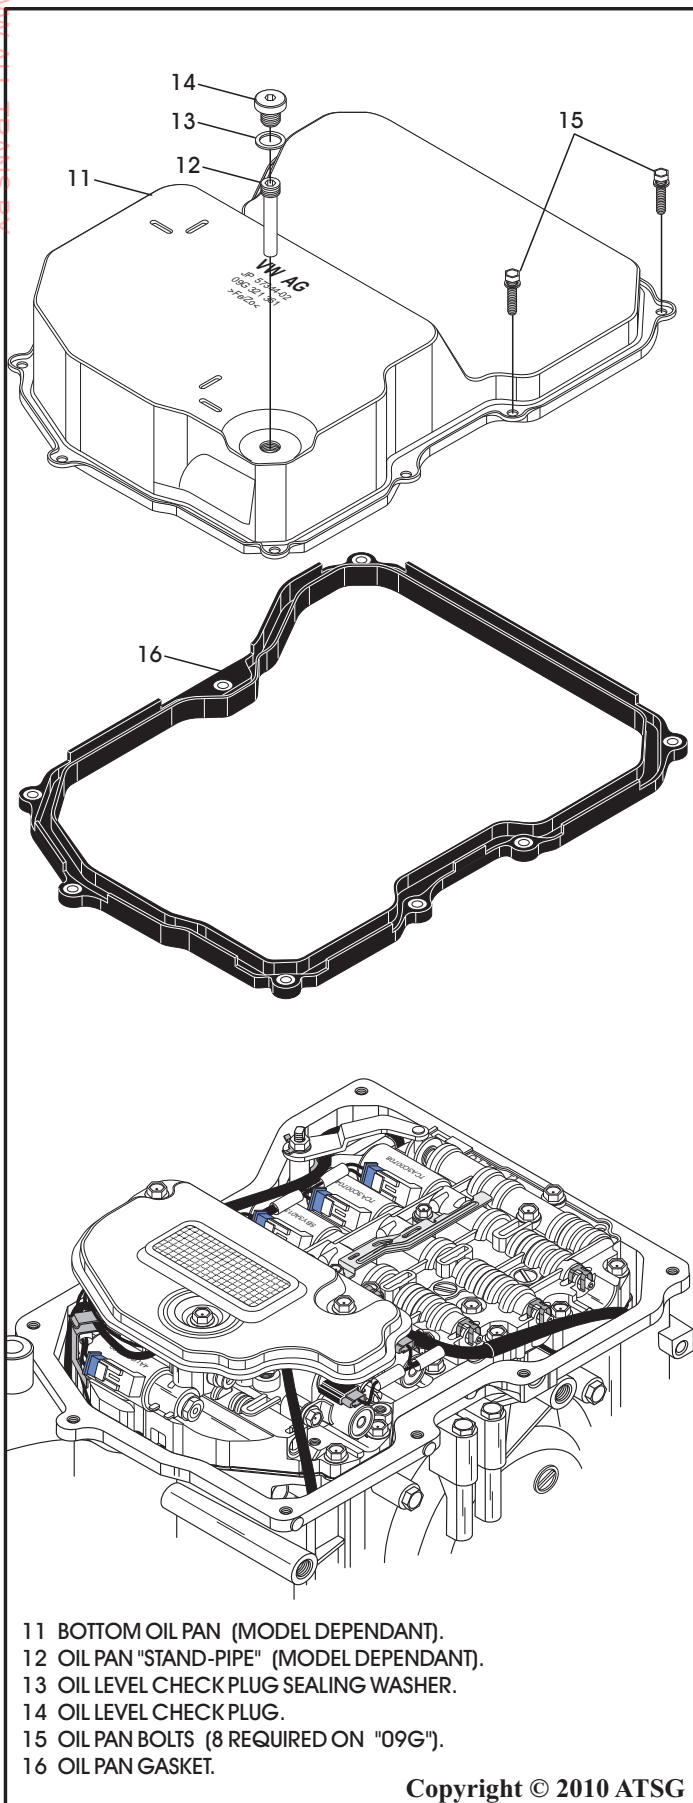

Figure 52
8. Remove the bottom oil pan bolts (8 on "09G") and remove the bottom oil pan, as shown in Figure 52.
9. Remove and discard the bottom oil pan gasket, as shown in Figure 52.